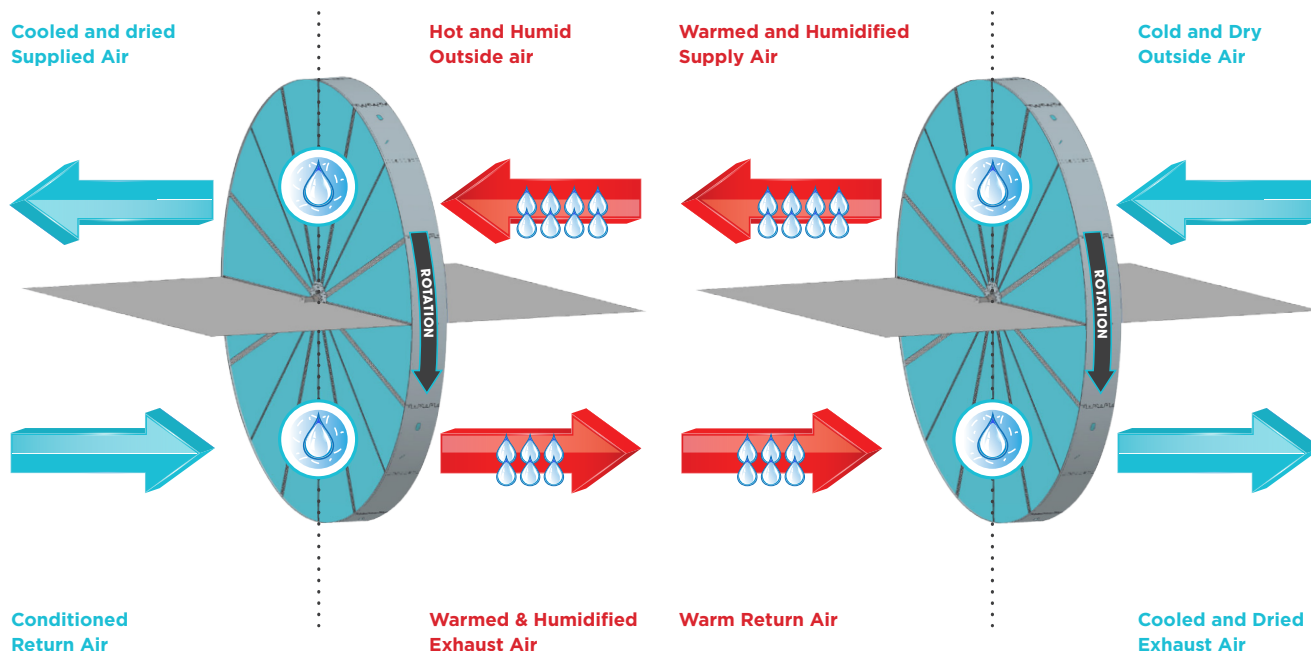

Figure 1.6
Energy recovery wheels, also known as enthalpy wheels or thermal wheels, are used to pre-conditions fresh outside air supplied to the building. The spinning rotor (20RPM standard) is separated between two (2) counterflows¹ airstreams. In cooling mode (figure 1.6), the wheel will greatly reduce the sensible (heat) and latent (moisture) energies leading to significant cooling and dehumidification cost reductions.